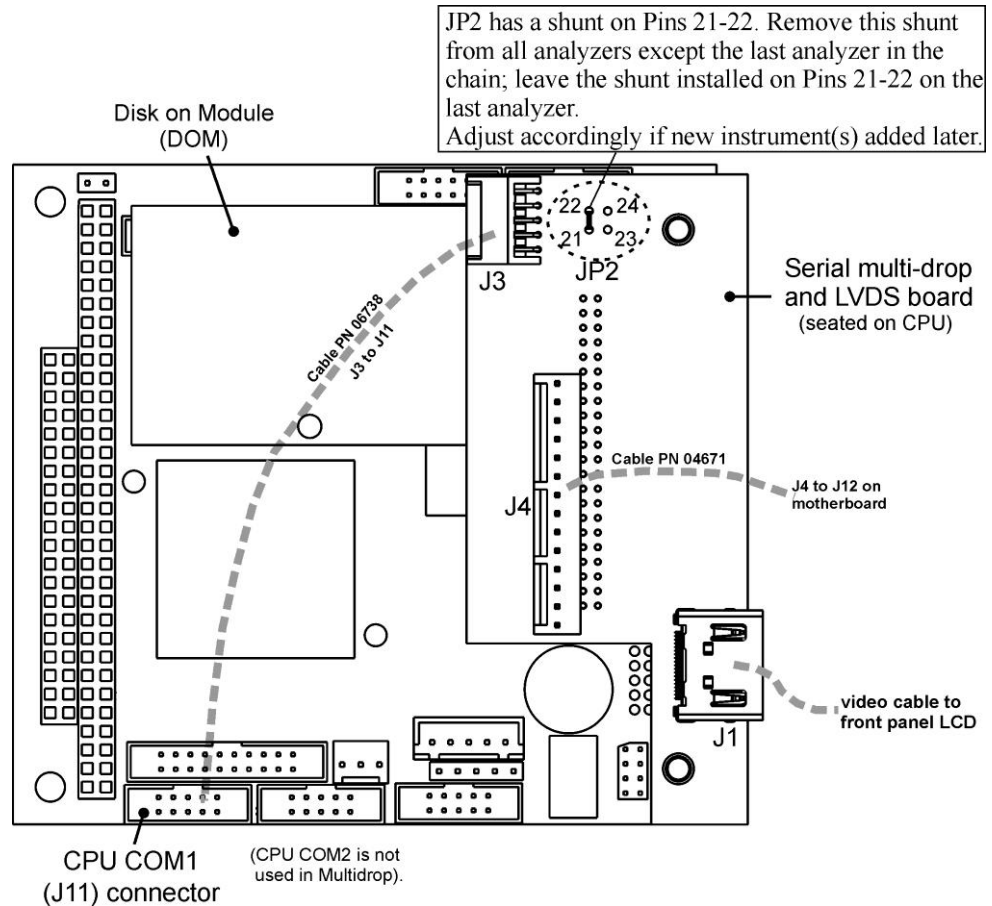

Figure 3-14: Jumper and Cables for Multidrop Mode
In each instrument with the Multidrop option there is a shunt jumpering two pins on the serial Multidrop and LVDS printed circuit assembly (PCA), as shown in Figure 3-14. This shunt must be removed from all instruments except that designated as last in the multidrop chain, which must remain terminated. This requires powering off and opening each instrument and making the following adjustments:
3. Check that the following cable connections are made in *all* instruments (again refer to Figure 3-14):